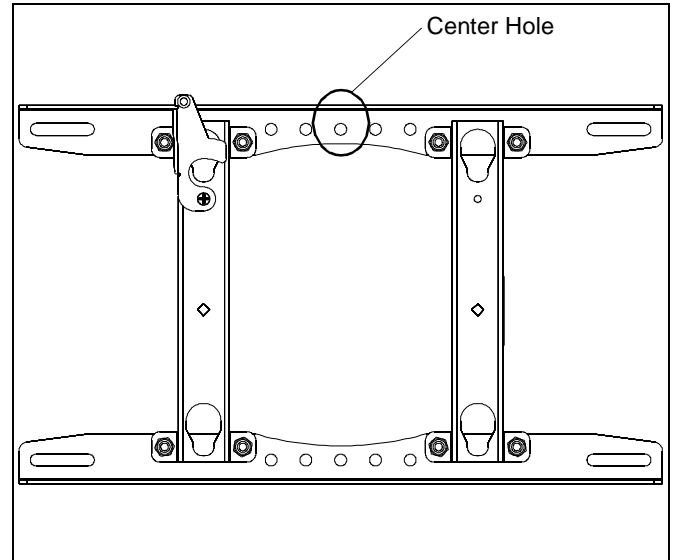

Figure 2
3. Using a nail as a temporary hook, hang the mount on the wall using the center hole located in the top center of the mount. (See Figure 2)
1. Using a nail as a temporary hook, hang the mount on the wall again using the top center hole located in the center of the mount. (See Figure 2)